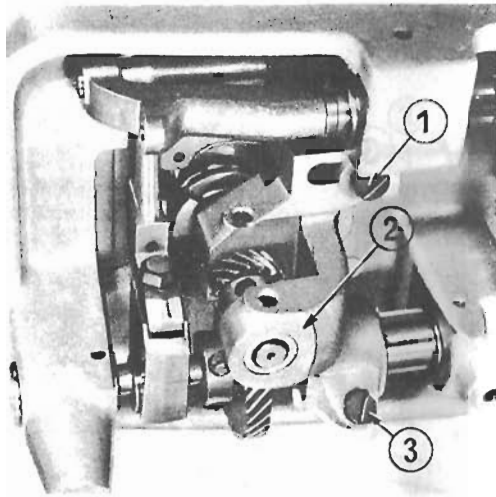

Fig. 20
To prevent the breaking of the needle thread, the sewing hook tip should be set as closely as possible to the needle. To adjust the distance between the blade point of the sewing hook and the needle, first, rotate the hand wheel with your hand until the axis of the needle and the blade point coincide with each other. Then, if the 2 screws (Fig. 20 ① and ③) are loosened, the base of the sewing hook (Fig. 20 ②) will move to right or left. At this position, bring the needle